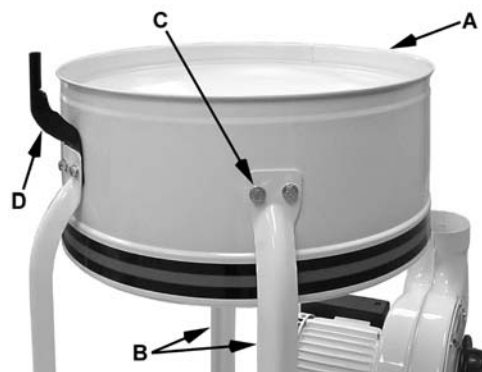
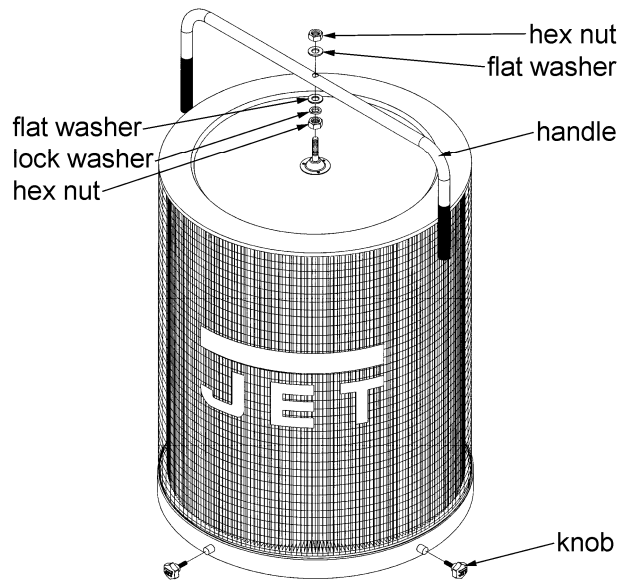

Figure 5
Figure 10
6. Install the *housing* (A, Fig. 5) to two *support legs* (B, Fig. 5) using four M8 x 16 hex cap bolts, eight M8 flat washers, and four M8 hex nuts (C, Fig. 5). *Be sure hose opening faces fan housing.*
Note: For filter bag models only – Before attaching third support bracket place the *hanger bracket* (D, Fig.5) between the support bracket and the housing. This action is not necessary for canister filter units.
1. Mount the handle onto the canister filter with two M10 hex nuts, two M10 flat washers, and a M10 lock washer (Figure 10).
2. Mount the canister filter on top of the *collector housing* (A, Fig. 5) and tighten the knobs on the *canister filter* (Figure 10).